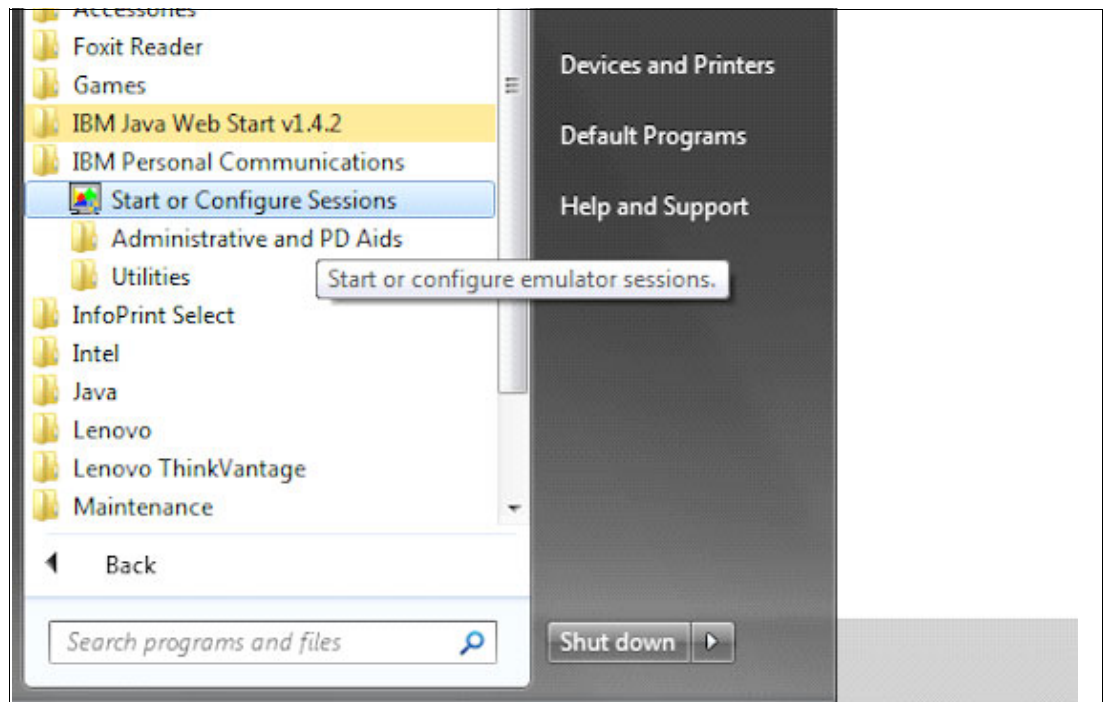

Figure 7-20 Start or configure sessions
1. Starting at the desktop, we click **Start** → **Programs** → **IBM Personal Communications** → **Start or Configure Sessions**, as shown in Figure 7-20.